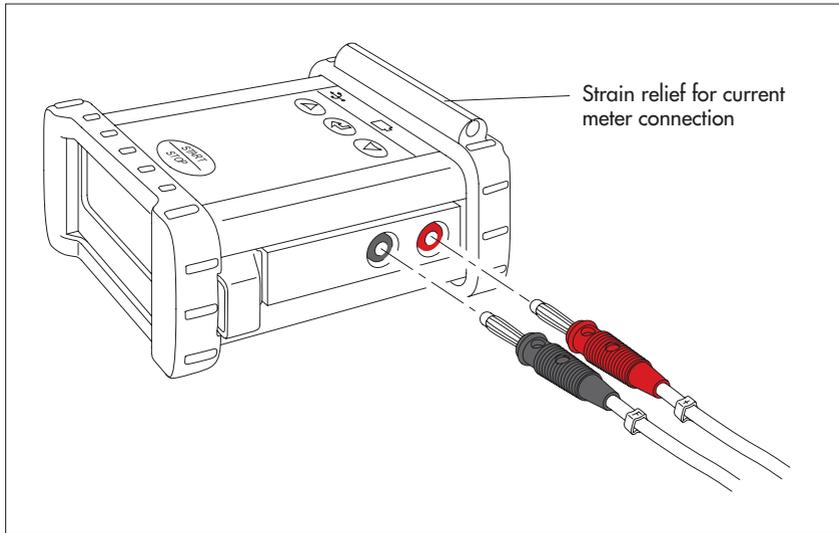

Fig. 3: Connecting the current meter to the Z400. For strain relief purposes, the current meter connection can be laid in the groove of the rear rubber cover.
- Connect the current meter to the Z400 as shown in Figure 3. Ensure correct polarity ("+": red socket; "F" (current meter contact): black socket). If the polarity is transposed, this leads to increased corrosion of the current meter (electrochemical corrosion).